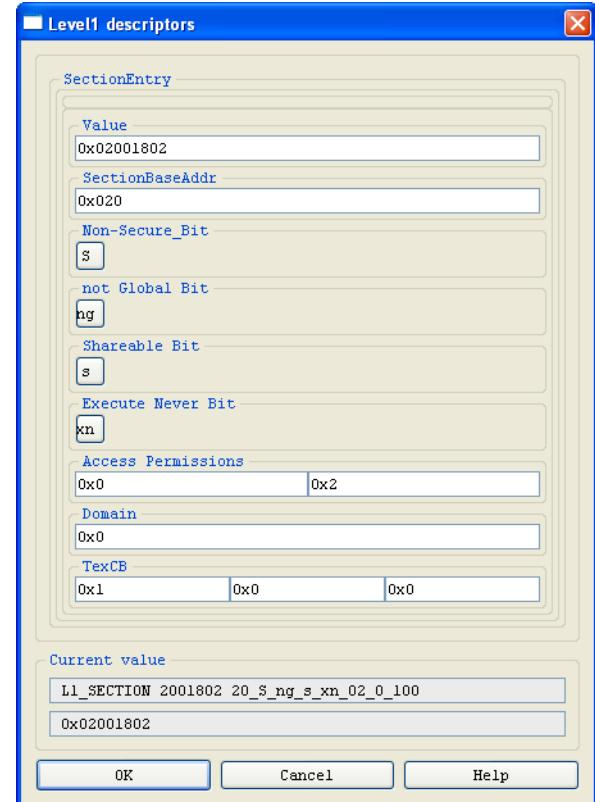

Figure 13-34 Level 1 descriptors dialog box
4. To view the details of an MMU table entry, double-click on that entry. The Level 1 descriptors dialog box or Level 2 descriptors dialog box is displayed as appropriate. For the example in Figure 13-33 on page 13-46, double-click on the entry at **0x77EFC030**. The Level 1 descriptors dialog box shown in Figure 13-34 is displayed.